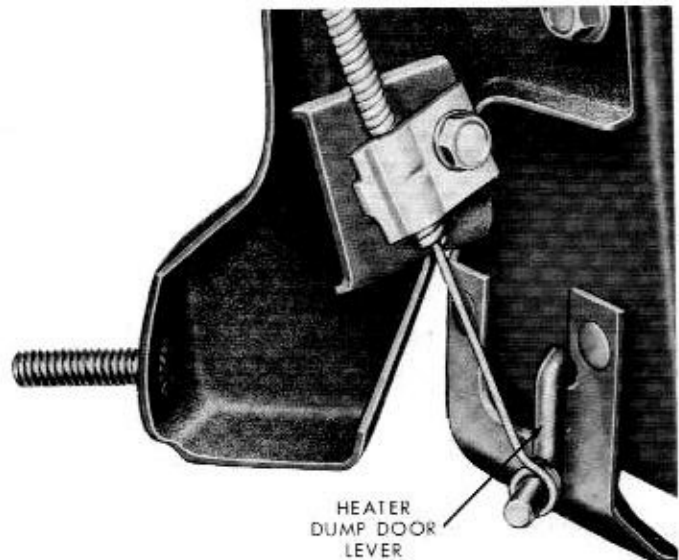

Fig. 4-18—Heater Dump Door Adjustment
1. Loosen, but do not remove, the control cable housing retainer screw at the heater dump door lever. (See Figure 4-18.)
2. With the lower control cable in the off detent position, move the heater dump door lever to the full counter-clockwise position. (See Figure 4-18.)